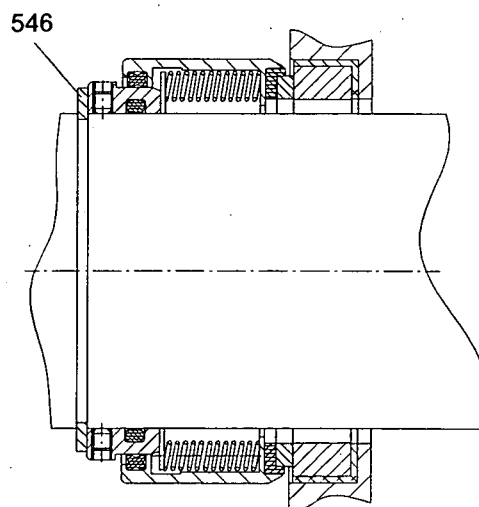

Fig. 20
e) Stainless-steel-shroud seal - type "X" (Fig. 20)